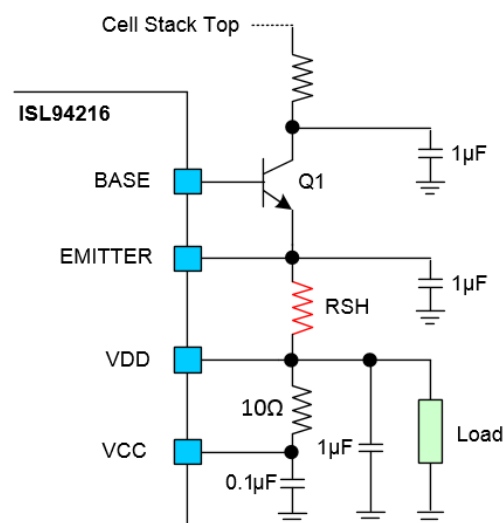

Figure 100. External Power Supply Components
The ISL94216 has an internal regulator that uses an external power transistor to provide regulated voltages for its internal circuits. The output of this regulator can also power other system circuitry, including the microcontroller. See Figure 100 while reviewing sections “VCC Pin (30)” through “BASE Pin (33)” on page 93.
These pins are to be connected per Figure 100 and should not be driven from external sources.